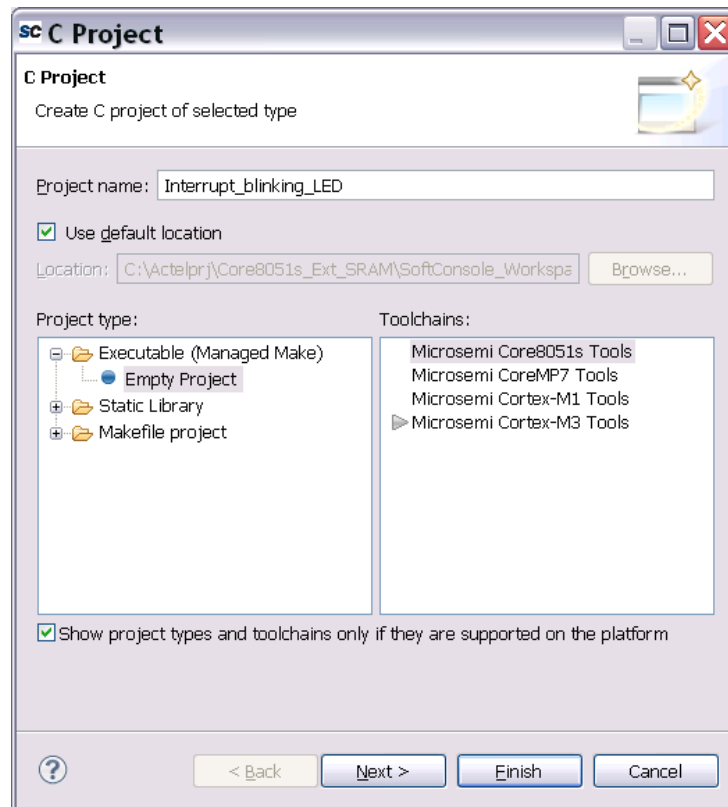

Figure 17 Selecting Project Type and ToolChains
7. Name the project as **Interrupt_blinking_LED**, as shown in Figure 17.